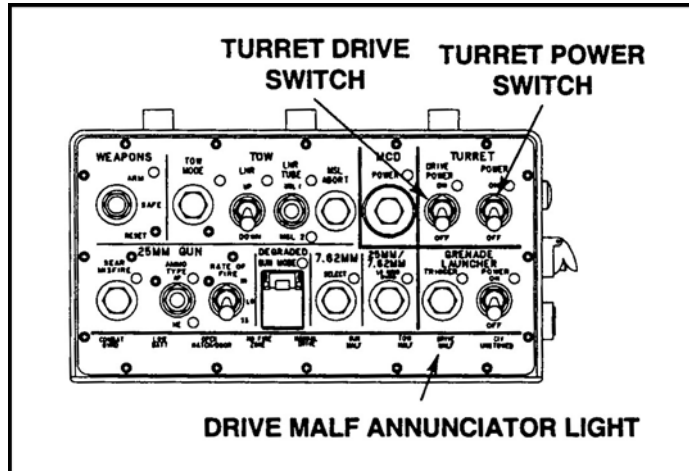

Figure 6. DRIVE MALF annunciator light.
- k. Move the turret power switch to ON (Figure 6).